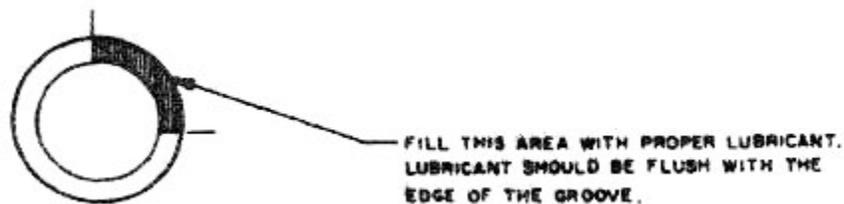

Figure 5-3. Lube Application to O-Ring Grooves
1. Pack one-quarter the distance around the groove with the required lubricant prior to installing the O-ring (see Figure 5-3).